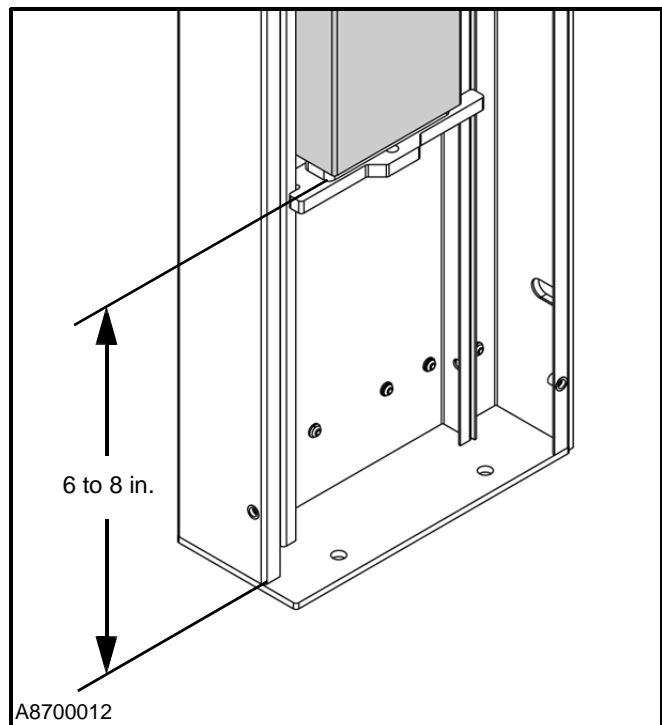

Figure 44
6. Securely block the counterweight in the position shown in Figure 44.
IMPORTANT: The 6 to 8 in. mounting height for each counterweight, as indicated in Figure 44, is adequate for most Turbo-Seal Insulated doors. However, for extra-wide or -short doors, the counterweights may have to be adjusted closer to the bottom of the side column. Also, the guides on the counterweight must be behind the conduit guides in the side column.